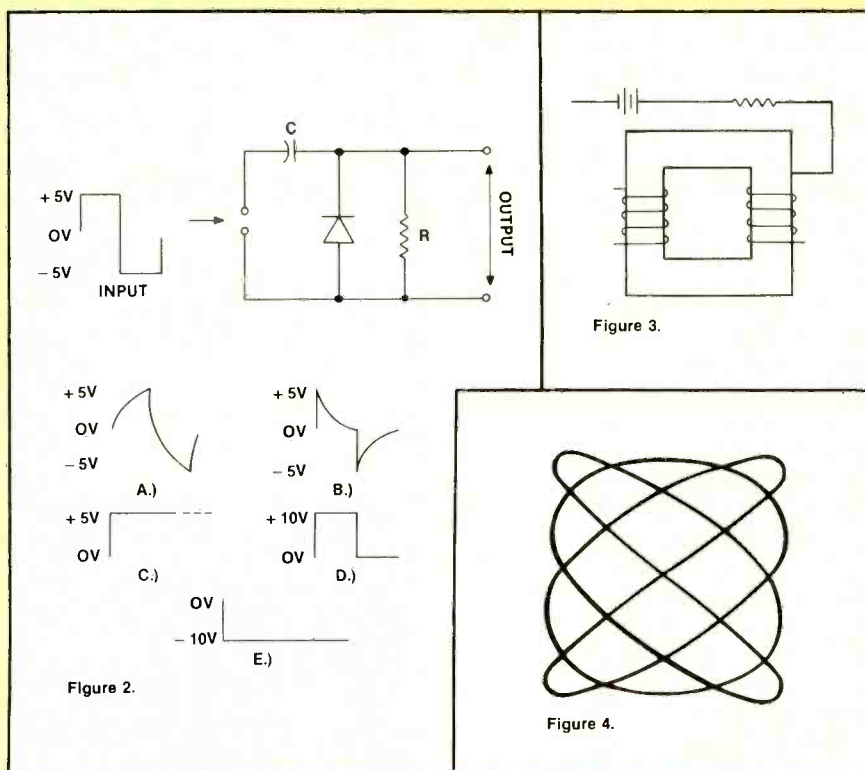

Figure 2.
5. Which of the output waveforms in Figure 2 is correct for the circuit and input waveform?